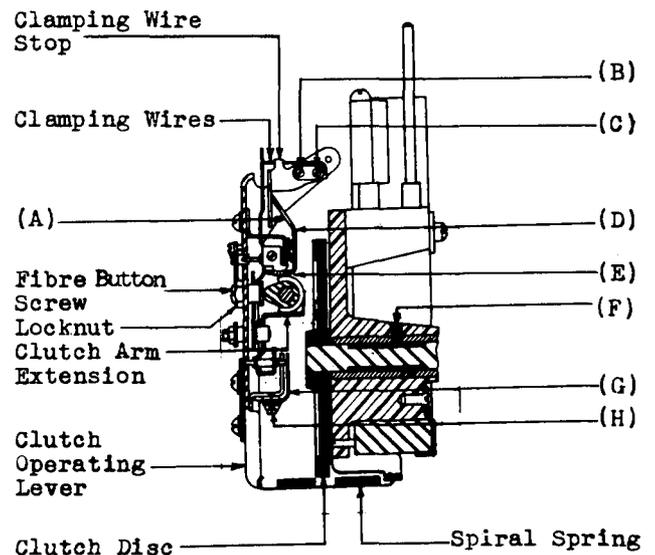

Fig. 9 - Cross Section of Balancing Mechanism
(1) Attention is called to the fact that too much lubricant, as well as too little, may cause trouble. Too little lubricant may result in sticking and a tendency to bind. On the other hand an excess of lubricant is to be avoided as it will collect dust or dirt and interfere with satisfactory operation. Care shall be taken that no lubricant gets on the insulation.
(2) Stop the controller as covered in paragraph 3.004.
(3) When lubricating worm gears, shaft bearings, operating cams, clutch arm shoes and fibre contact buttons apply the oil with the 486A oil can. Wipe off all excess oil with a clean dry cloth. To gain access to the oil hole (F) in Fig. 9 it is necessary to remove the galvanometer.
(6) In order to lubricate that section of the operating cam which lifts the rocker arm, place the spout of the 486A oil can at the lower edge of the slot (A) of Fig. 9, and allow the oil to run down the inside of the arm (D), so that the oil will flow through the hole (E) to the cam underneath this hole.
(1) Stop the controller as covered in paragraph 3.004. Remove the galvanometer as covered in paragraph 3.02(4).
(2) Remove the balancing mechanism as covered in paragraph 3.01(7). Measure the pressure of the clamping wires against the clamping wire stops (Fig. 9). If necessary to adjust the pressure proceed as follows: Loosen screws (B) and (C) (Fig. 9), using the KS-6854 screwdriver. To increase the pressure, push the adjusting bar up under screw (B) and tighten screws (B) and (C). To decrease the pressure, allow the adjusting bar to slip down under screw (B) and tighten screws (B) and (C). Repeat until the requirement is met.
(3) If the clamping wires become bent, straighten them using a pair of duck-bill pliers. Recheck the pressure of the wires.
(4) Remount the balancing mechanism as covered in paragraph 3.01(10). Remount the galvanometer as covered in paragraph 3.02(5). Start the controller by releasing the BF relay.
(3) Clutch Corks: To check if the two clutch corks engage the clutch disc simultaneously start the controller and then stop it so that the clutch corks are almost touching the clutch disc. Insert a piece of paper between each cork and the clutch disc and start and stop the motor until the corks begin to tighten up against the paper. By moving the pieces of paper up and down carefully, it is possible to determine, after each starting and stopping of the motor, the exact instant when each cork engages the clutch disc and it is also possible to determine if the two corks engage the clutch disc simultaneously. If the corks do not engage simultaneously, the high cork should be refaced with fine sandpaper. To reface the corks use two strips of No. 00 sandpaper 1 inch wide and about 5 inches long. Insert the sandpaper between the corks and the clutch disc with the rough side of the sandpaper toward the corks and move the sandpaper up and down until the corks meet the requirement.
(4) Pressure of Clutch Operating Lever: If the pressure needs to be increased it will be necessary to replace the spiral spring (Fig. 9).
(5) Clutch Slip: If the clutch corks slip on the clutch disc check that the clutch operating lever pressure is met and if that is satisfactory clean the clutch disc and clutch corks as covered in paragraph 3.01(2).
(6) Clutch Arm Bearing: If the clutch arm is too tight or too loose in its bearings, remove the balancing mechanism as described in paragraph 3.01(7). Loosen screw (H) (Fig. 9) using the 3-1/2 inch cabinet screwdriver. Push the flat spring (G)